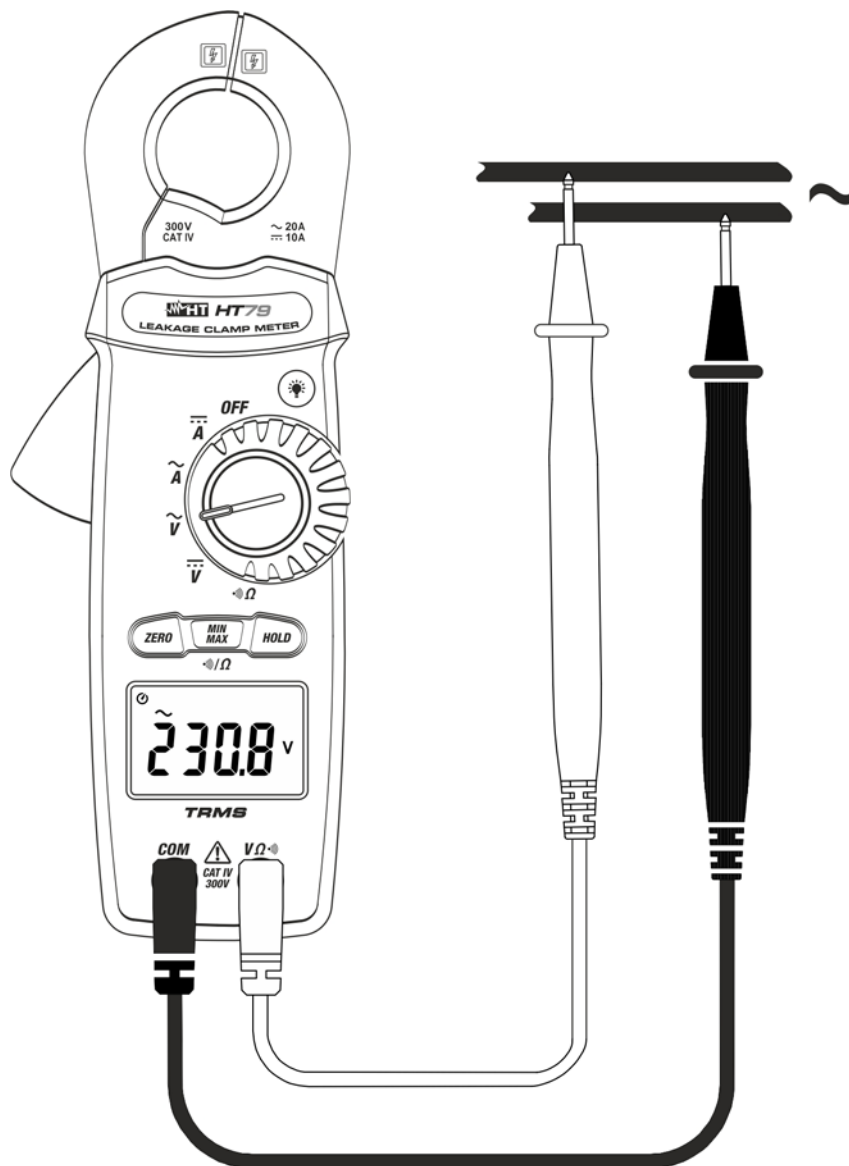

Fig. 5: Use of the instrument for AC voltage measurement
3. Position the test leads in the desired spots of the circuit to be measured (see Fig. 5). The display shows the value of voltage.